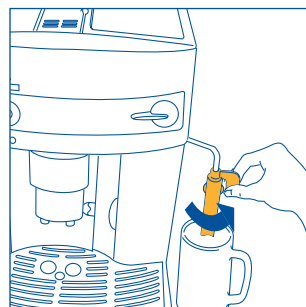
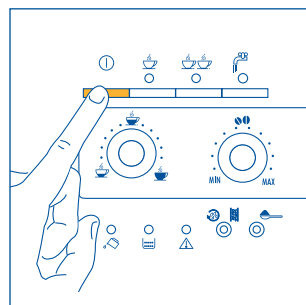
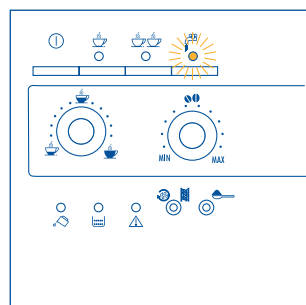

Fig.3
Fig.4
Fig.22
2. Move the milk frother towards the outside and place a cup underneath (Fig.3). Then turn the machine on by pressing the ① button (Fig.4).
- Turn the cappuccino frother towards the outside of the machine (Fig. 3).
- Position a container underneath the milk frother (Fig. 3).
- Move the cappuccino frother outwards (fig. 3).
- Place an empty container under the cappuccino frother (fig. 3). Turn the steam knob a half turn counter-clockwise as far as it will go (the  light flashes fig. 22). Run off the steam mixed with water for a few seconds until only steam is gone off.